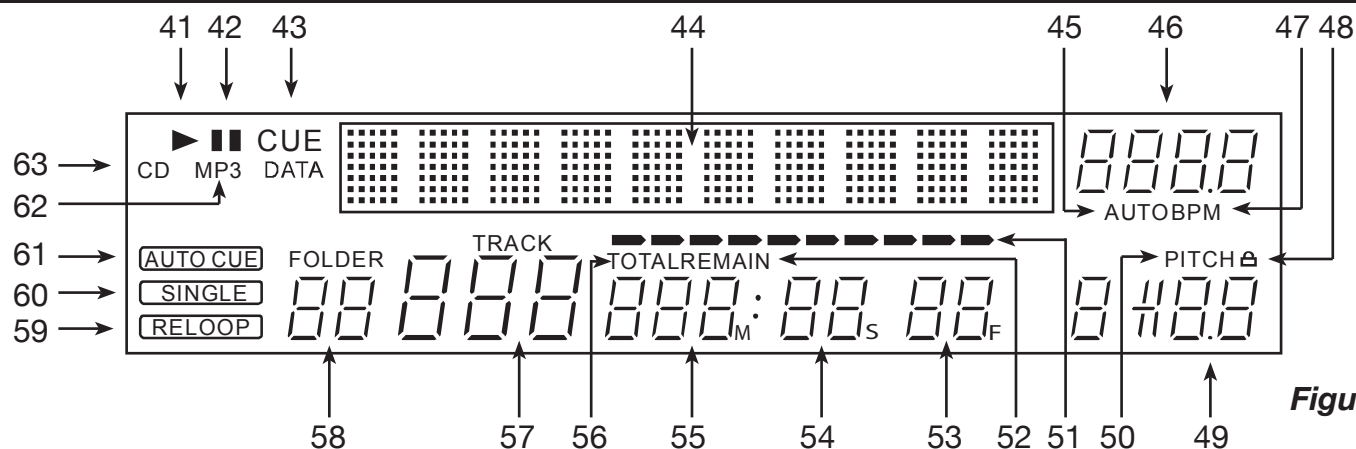

Figure 5
D. LCD DISPLAY PANEL (FIGURE 5)
49. PITCH METER - This meter will display the pitch percentage applied by the *PITCH SLIDER* (10).